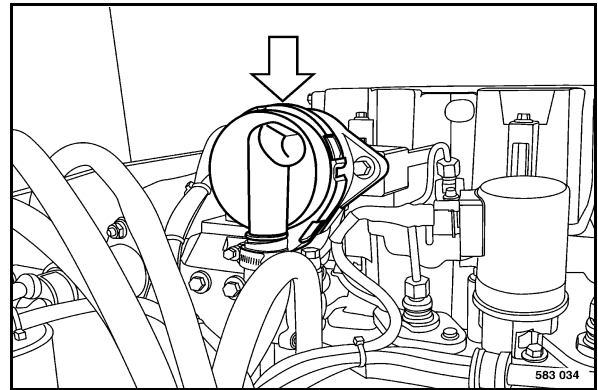

Fig. 180
- Replace the crank case ventilation valve (Fig. 180).